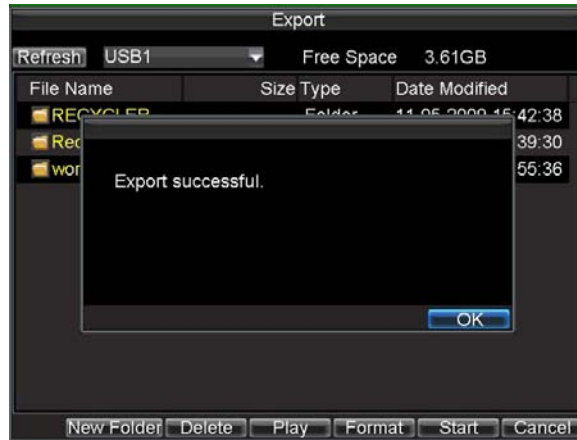

Figure 5. Successful Export
8. After the backup process has completed (Figure 5), you may select the files from your device and click the *Play* button to verify that it has been exported successfully.